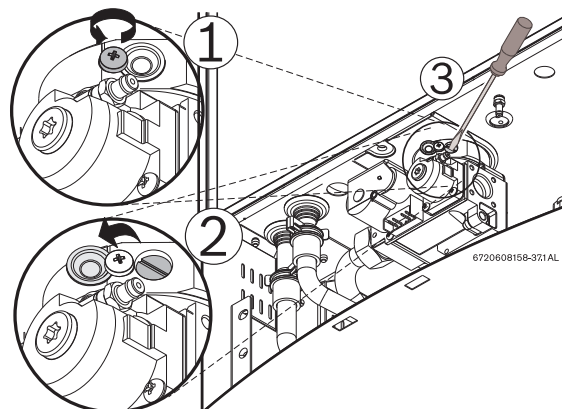

Fig. 58 Adjusting P1 CO₂ level
- Loosen yellow painted Phillips screw (1) and cover should rotate down (2) revealing a recessed brass slotted screw. Fig. 58.